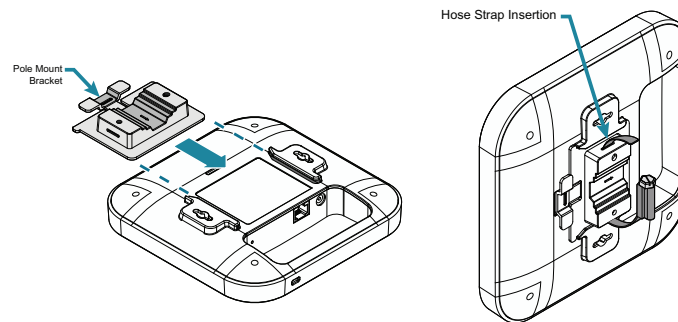

Figure 8. Attach the Pole Mounting Bracket and Straps for Horizontal Mounting
1. Once the pole mounting bracket is attached to the BSAP, thread the hose strap through the two slots on the pole mount bracket as shown in Figure 8.
2. Rotate the BSAP 90 degrees so that pole mount bracket and hose straps are aligned vertically (as shown in Figure 8).